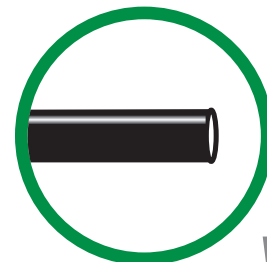

fig. 45
- a. Check the air line connection by deflating the spring and removing the line by pulling the collar against the fitting and pulling firmly on the air line. Trim 1" off the end of the air line. Be sure the cut is clean and square (see Fig. 45). Reinsert the air line into the push-to-connect fitting.
2. If the preceding steps have not resolved the problem, call Air Lift customer service at (800) 248-0892.